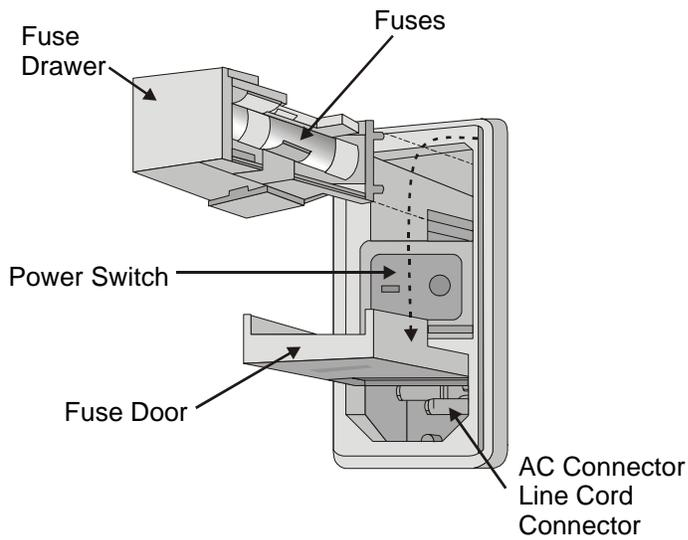

Figure 95 Replacing the Fuse
1. Ensure that the power cord is disconnected from the power entry module on the rear left side of the instrument. The fuse drawer is located in the top portion of this module. Refer to *Figure 95*.